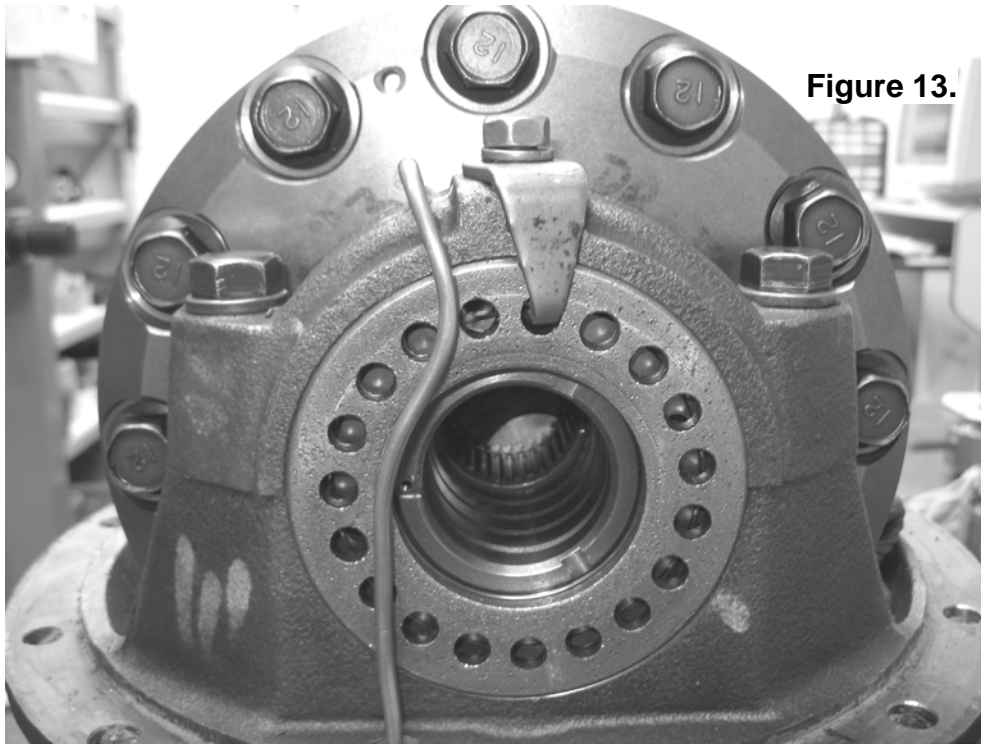

Figure 13.
- ☐ With the seal housing tube now firmly secured into the bulkhead fitting, bend the tube so that it closely follows the profile shown in Fig.13. and 14.